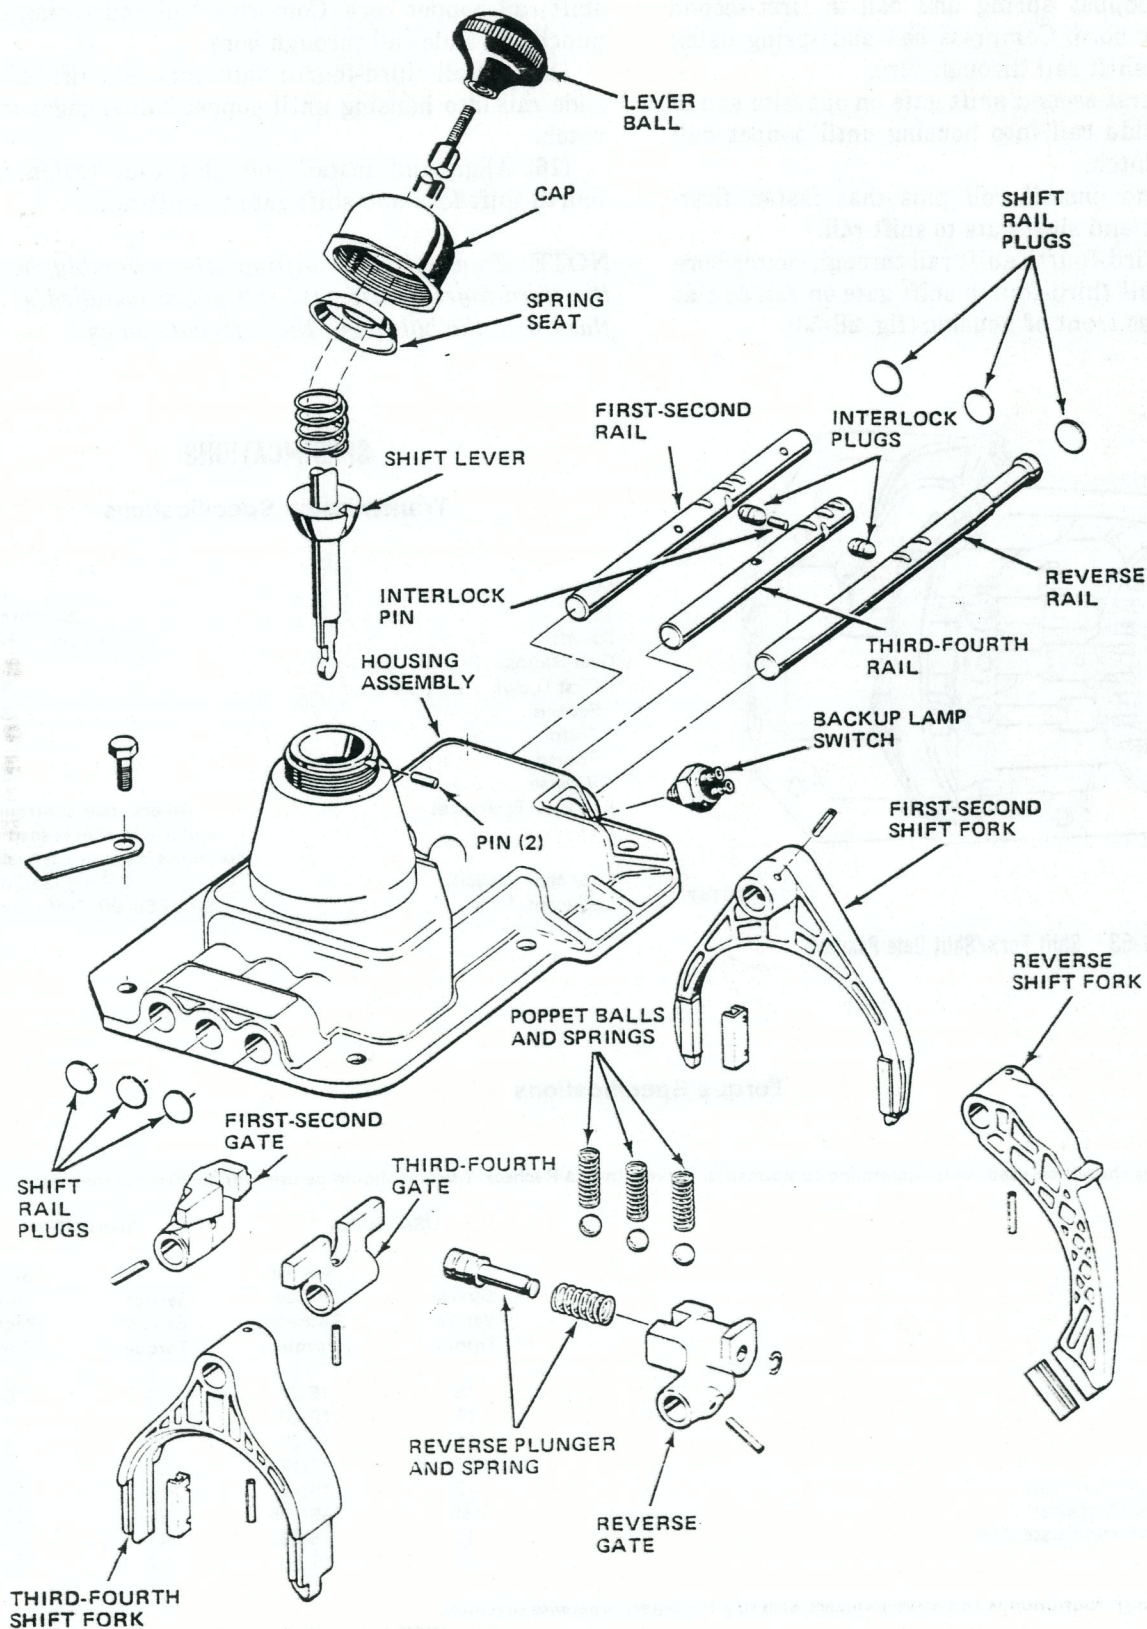

Fig. 2B-52 Shift Control Housing—Transmission Model T-18A
(1) Install replacement breather in housing if removed.
(2) Install spring and plunger in reverse shift gate. Compress plunger and install plunger retaining clip.
(3) Insert reverse shift rail into housing. Install reverse shift fork on rail and slide rail up to but not into shift rail poppet bore.
(4) Install poppet spring and ball in reverse shift rail poppet bore. Compress ball and spring using punch and slide rail through bore.
(5) Install reverse shift gate on opposite end of shift rail and slide rail into housing until poppet ball engages rail notch. Install shift gate so plunger pin boss faces rear of housing (fig. 2B-53).
(6) Align and install roll pins that fasten reverse shift fork and shift gate to shift rail.
(7) Install interlock plungers in pockets located between housing shift rail poppet bores.
(8) Insert first-second shift rail into housing. Install first-second shift fork on rail so fork offset faces rear of housing (fig. 2B-53). Slide shift rail up to but not into shift rail poppet bore.
(9) Install poppet spring and ball in first-second shift rail poppet bore. Compress ball and spring using punch and slide shift rail through bore.
(10) Install first-second shift gate on opposite end of shift rail and slide rail into housing until poppet ball engages in rail notch.
(11) Align and install roll pins that fasten first-second shift fork and shift gate to shift rail.